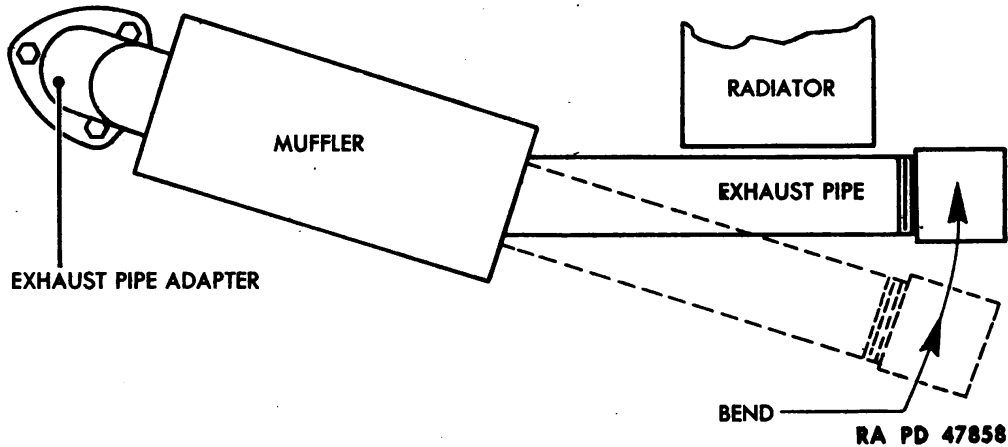

Figure 15 – Muffler Installation
44. MUFFLER REPLACEMENT (fig. 15).
(1) Screw the new muffler onto the exhaust pipe adapter, then install the exhaust pipe. By putting pressure on the end of the pipe, spring it over as shown in figure 15.